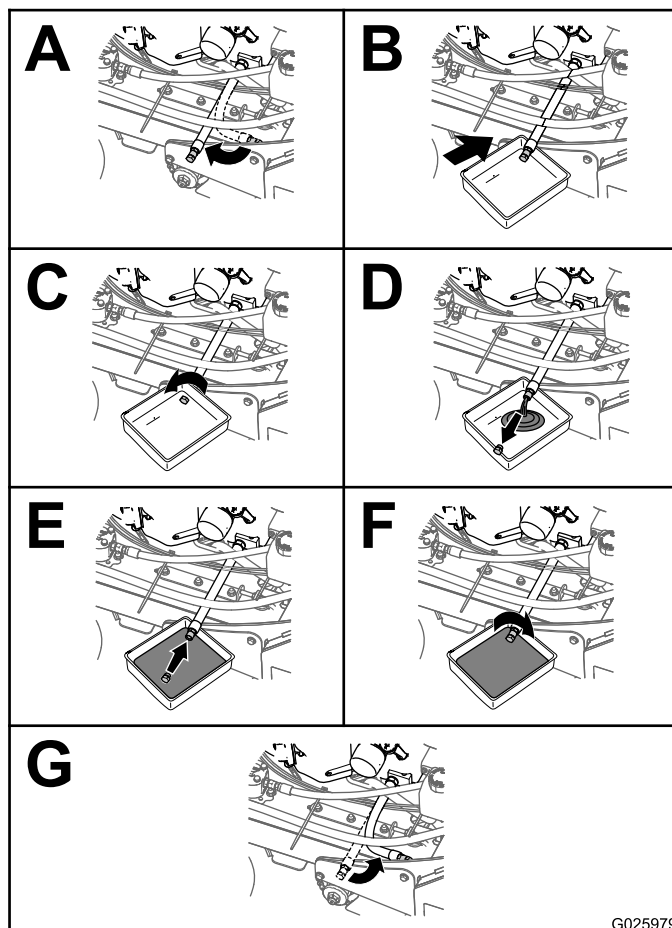

Figure 37
3. Change the engine oil as shown in Figure 37.